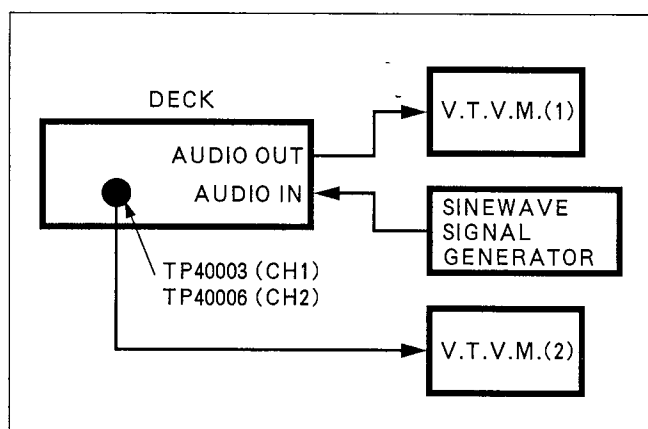

Figure E54
1. Connect the V.T.V.M.s to the deck as shown in Figure E54. Note that only one channel will be adjusted at a time.
4. Adjust VR40005 (CH1) so that V.T.V.M. (2) reads approximately 0.8Vrms (2.26Vp-p).